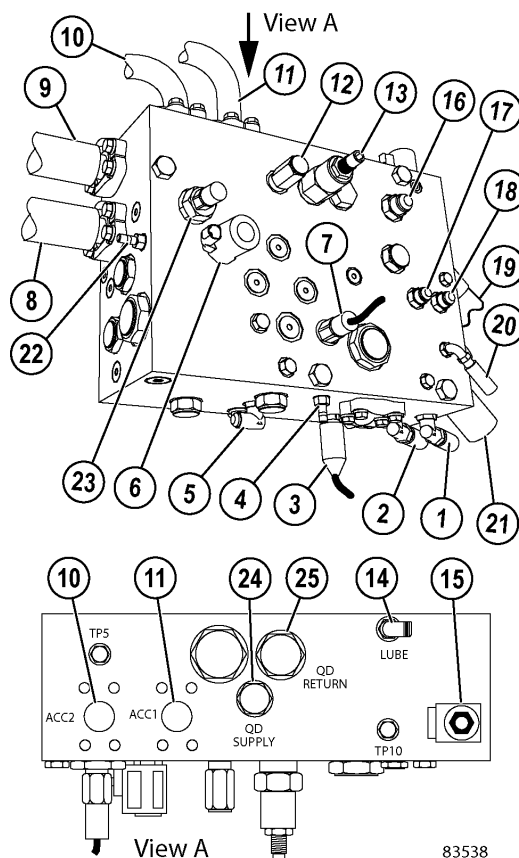
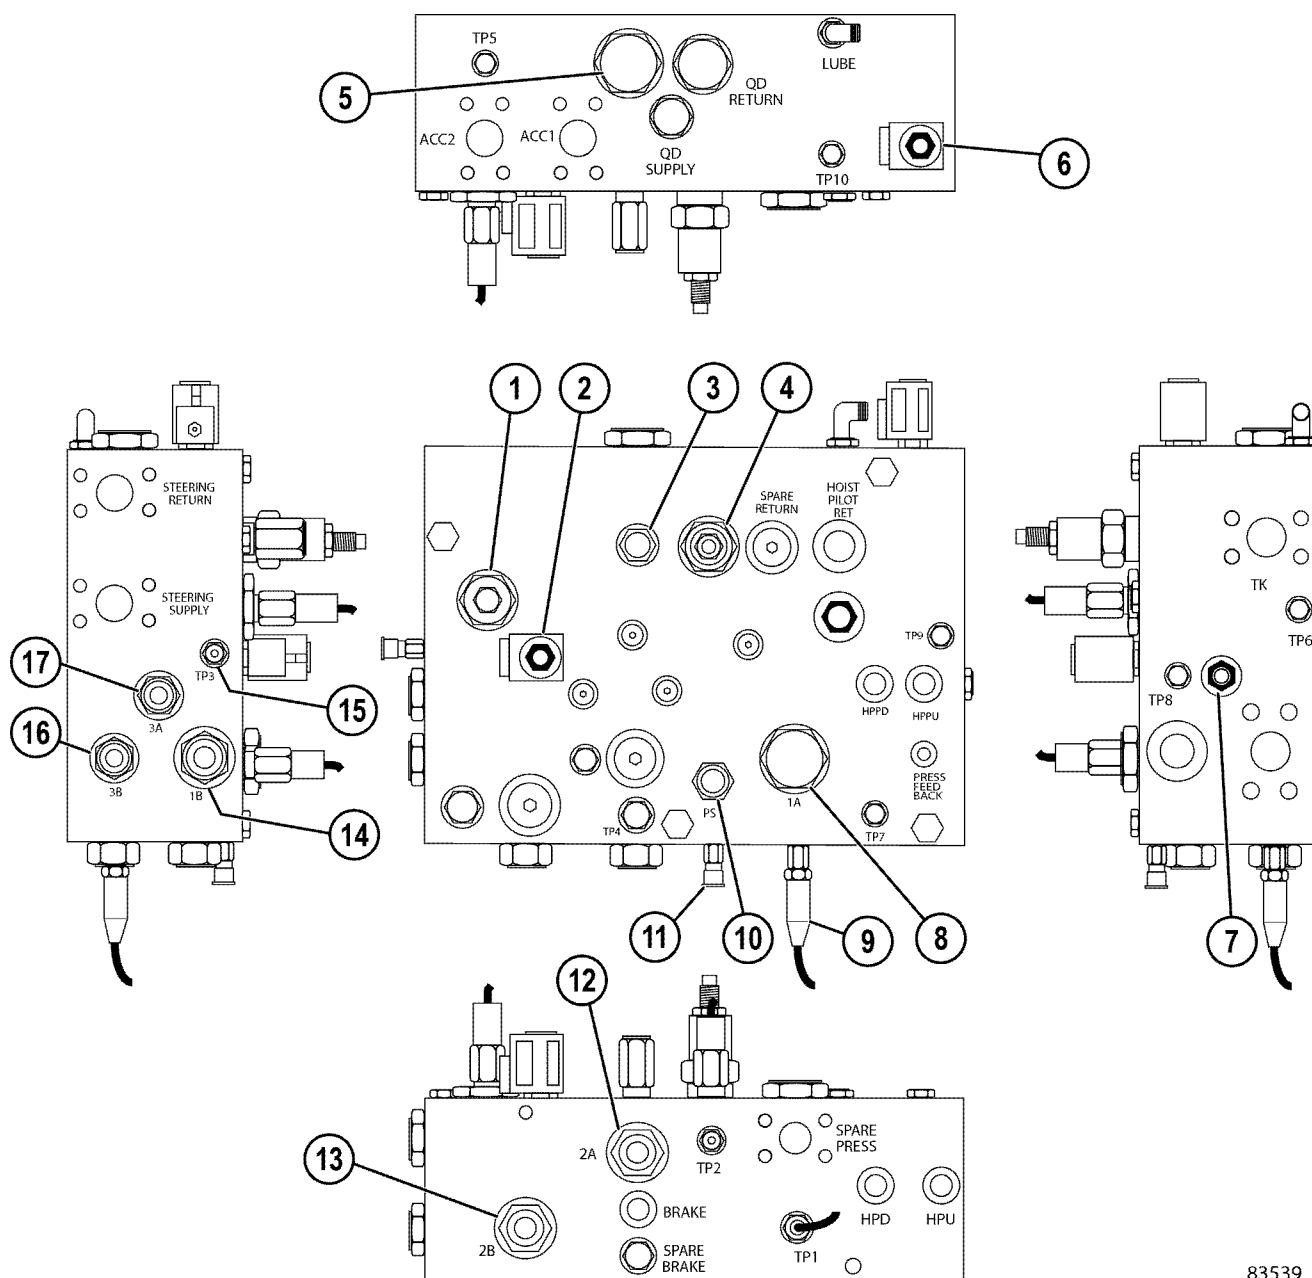

FIGURE 4-3. BLEED DOWN MANIFOLD
FIGURE 4-4. BLEEDDOWN MANIFOLD
Oil pressure from the bleed down manifold is routed back to the steering/brake pump and sensed by the “ACC” port on the unloader valve located on the bottom of the steering/brake pump case. The unloader valve regulates the system pressure between 23 063 kPa (3,345 psi) and 24 132 kPa (3,500 psi). Steering system pressure switch (7, Figure 4-3) on the bleed down manifold activates a warning light on the overhead dash panel if steering system pressure drops below 15 900 kPa (2,300 psi).
Two nitrogen precharged steering accumulators (3, Figure 4-1) are mounted on the left frame rail behind the front tire. They provide an oil supply that is sufficient to allow the operator to steer the truck off the haul road and park in a safe area if a loss of steering circuit oil occurs. Steering accumulator bleed down solenoid (6, Figure 4-3) on the bleed down manifold is electrically activated to bleed the pressurized hydraulic oil from inside the accumulators back to the hydraulic tank whenever the key switch is turned to the OFF position. Approximately 90 seconds is required for the accumulator to bleed down fully.
Relief valve (4, Figure 4-4) limits the hydraulic supply pressure to the steering and brake circuits to 27 500 kPa (4,000 psi). Relief valve (3) provides maximum pressure protection of 4 100 kPa (600 psi) for the oil returning to the hydraulic tank.
Each time the key switch is turned OFF with the truck stopped, steering accumulator bleed down solenoid (6, Figure 4-3 and 2, Figure 4-4) is energized. When the solenoid is energized, all hydraulic steering pressure (including the accumulators) is bled back to the hydraulic tank. Brake pressure, however, will not bleed down due to internal check valves in the brake manifold and bleed down manifold.
After approximately 90 seconds, the solenoid will de-energize to close the return port to the tank. By this time, all the oil in the accumulators should be returned to the tank. At startup, the steering circuit and brake circuit will be charged. Steering system pressure switch (7, Figure 4-3) will activate the low steering pressure warning light and buzzer until steering pressure reaches 15 900 kPa (2,300 psi).
Relief valve (4, Figure 4-4), located in the bleddown manifold, limits the hydraulic supply pressure to the steering and brake circuits to 27 500 kPa (4,000 psi).
The external supply is connected to port (24, Figure 4-3) and the return is connected to port (25). This feature should only be used for an emergency to allow operation of the truck to return to the shop for service or to move the truck out of haul road traffic.